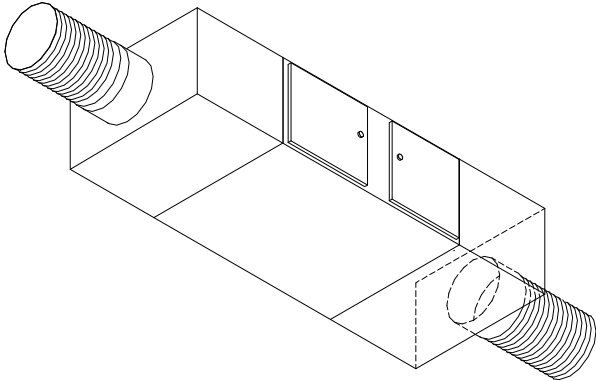

FIG. 3
1. The MT1252 comes standard with a set of rectangular plenums that include a 14" diameter collar (AM-14) to connect to flexible duct above ceiling. Upon installing the MT1252, follow the instructions included with the AM-14 plenum kit. The completed installation should look like the following diagram. (See FIG. 3.)